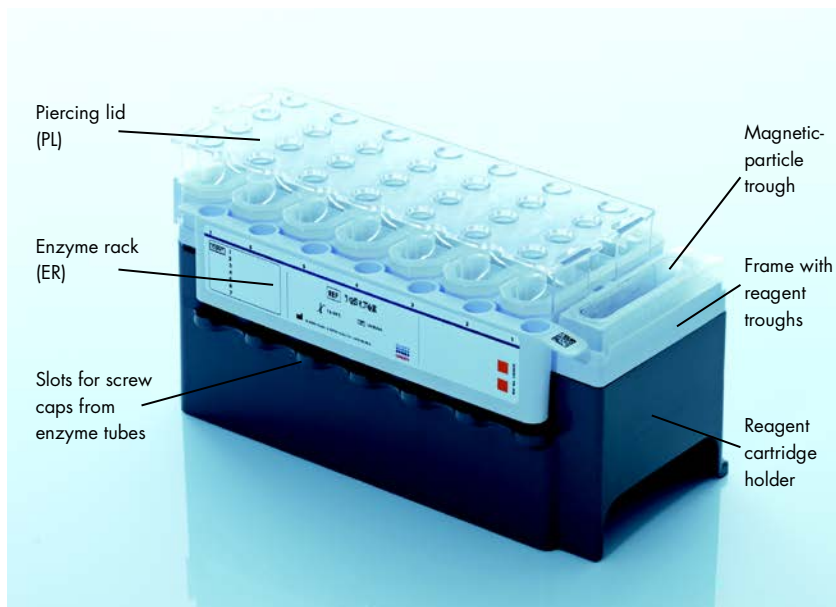

Figure 2. QIAasympyony reagent cartridge (RC). The reagent cartridge (RC) contains all reagents required for the protocol run.
Reagents for purification of DNA are contained in an innovative reagent cartridge (RC) (Figure 2, page 13). Each trough of the reagent cartridge (RC) contains a particular reagent, such as magnetic particles, lysis buffer, wash buffer, or elution buffer. Partially used reagent cartridges (RC) can be reclosed with Reuse Seal Strips (RSS) for later reuse, which avoids generation of waste due to leftover reagents at the end of the purification procedure.
Before starting the procedure, ensure that the magnetic particles are fully resuspended. Remove the magnetic-particle trough from the reagent cartridge frame, vortex it vigorously for at least 3 minutes, and replace it in the reagent cartridge frame before the first use. Place the reagent cartridge (RC) into the reagent cartridge holder. Place the enzyme rack (ER) into the reagent cartridge holder. Before using a reagent cartridge (RC) for the first time, place the piercing lid (PL) on top of the reagent cartridge (RC) (Figure 2, above).
After the magnetic-particle trough cover is removed and the enzyme rack tubes are opened (screw caps can be stored in dedicated slots, see Figure 2, page 13), the reagent cartridge (RC) is subsequently loaded into the “Reagents and Consumables” drawer.